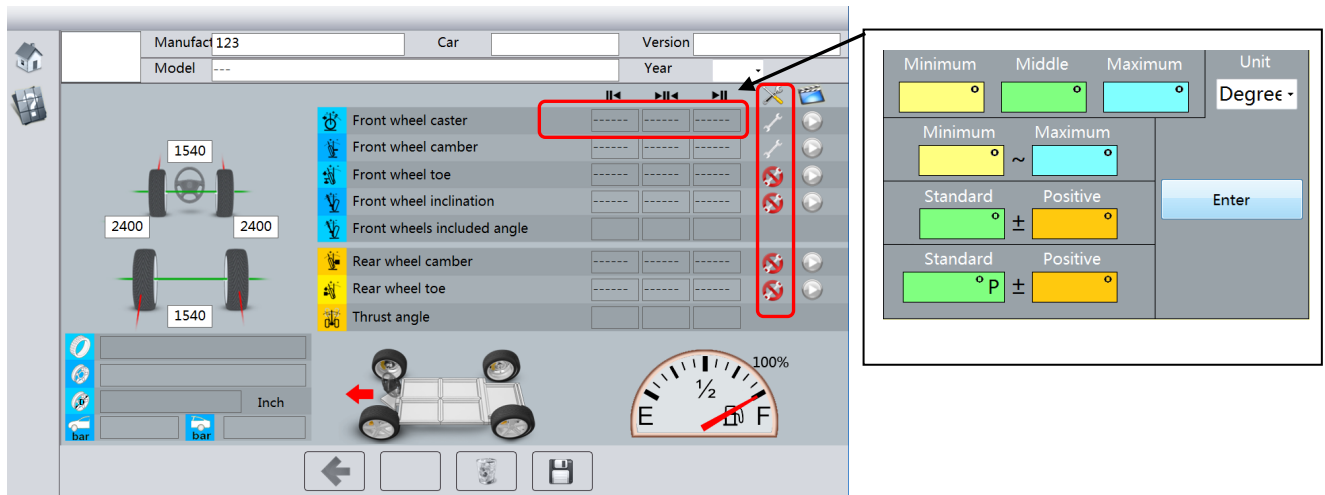

Fig.16
2. Data addition: Choose the items to be added, double click the mouse to add and note whether the vehicle can be adjusted or not. (See Fig.16) After addition, save and exit.